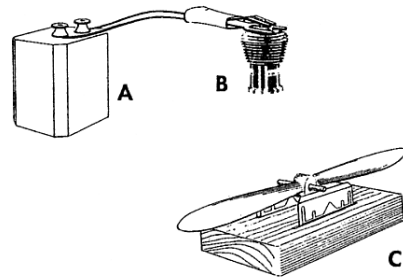

FIG. 1
4. Procure a 1½ volt Cox dry cell battery, or equivalent, and connect it with 2 flexible insulated wires to the glow plug clip as shown in the diagram A and B-Fig. 1. Do not use a stronger battery. If you do, the plug will burn out. The connections should be soldered to insure good contact, and taped to prevent bare ends of wire from getting together and shorting the battery. Be sure the battery is a good one. Your dealer sells batteries and glow plug clips. The Thimble Drome plastic mounted glow plug clip with wires
5. Balance and trim propeller. This is very essential for good performance. Sand off any bead of plastic along the edges of the blades. Fit a drill or shaft through the hole and rest the shaft on razor blades set in wooden blocks as shown in C-Fig. 1. Sand the heavy blade until the propeller will balance in a horizontal position. Care must be taken to do the sanding without spoiling the airfoil characteristics of the propeller blades. Caution: use only nylon or wooden props. Styrene props are extremely dangerous on these engines.
5. Connect the battery by snapping she clip on the glow head B-Fig. 1.